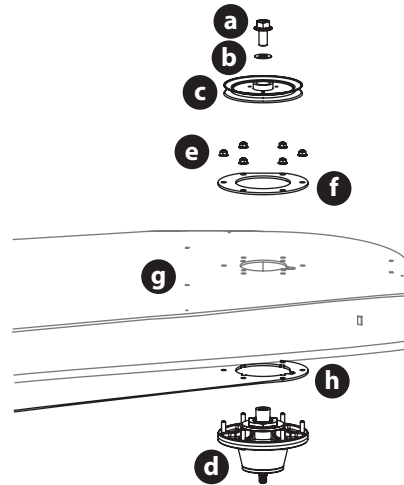
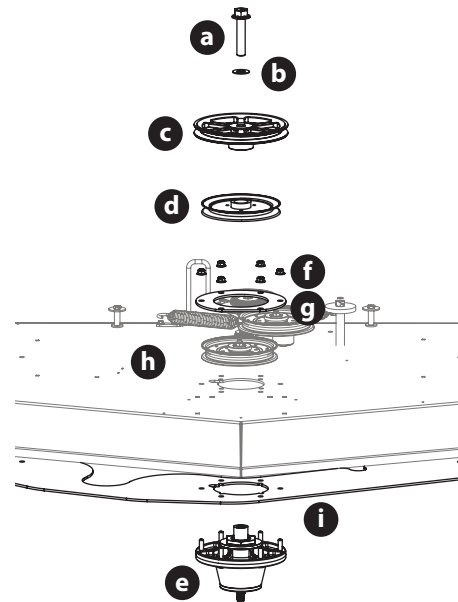

Figure 59
Figure 60
- Remove the hex flange bolts (a) and flat washers (b) securing the left and right spindle pulleys (c) to the spindle assembly (d) (Figure 59).
- Remove the 6 flange lock nuts (e) securing the left and right spindle assemblies (d) and the support plates (f) to the deck shell (g) (Figure 59).
NOTE: The deck support plate (h) does not need to be removed unless all three spindles are being replaced (Figure 59).
- Remove the hex flange bolt (a) and flat washer (b) securing the drive pulley (c) and center spindle pulley (d) to the spindle assembly (e) (Figure 60).
- Remove the 6 flange lock nuts (f) securing the center spindle pulley (d), spindle assembly (e) and the support plates (g) to the deck shell (h) (Figure 60).
NOTE: The deck support plate (i) does not need to be removed unless all three spindles are being replaced (Figure 60).
- Reverse the process to install the spindle assembly. When installing the new spindle assembly be sure to install the hardware exactly (Figure 59 and Figure 60). Torque the hex flange bolts to 250 ft-lbs (339 N-m) and the flange lock nuts to 21-32 ft-lbs (28-43 N-m).